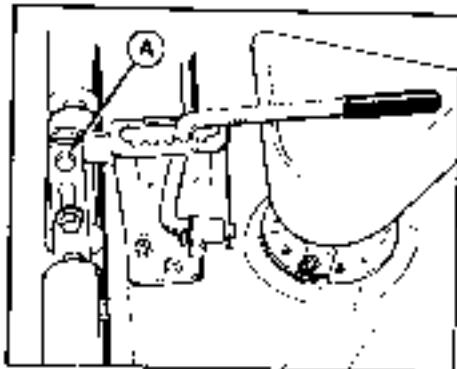

Figure 35. Shoulder Bolt
- Loosen the shoulder bolt (A, figure 35) and raise or lower mower as necessary to level it. Retighten the shoulder bolt and torque to 40 ft. lbs.